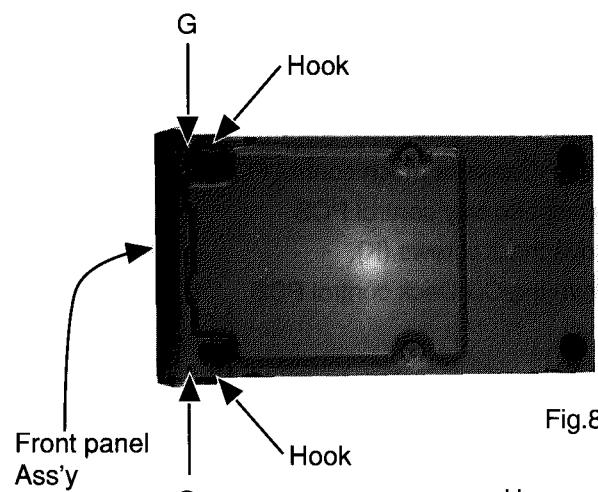

Fig.8
5. Remove the 2 screws (G) (Fig8).